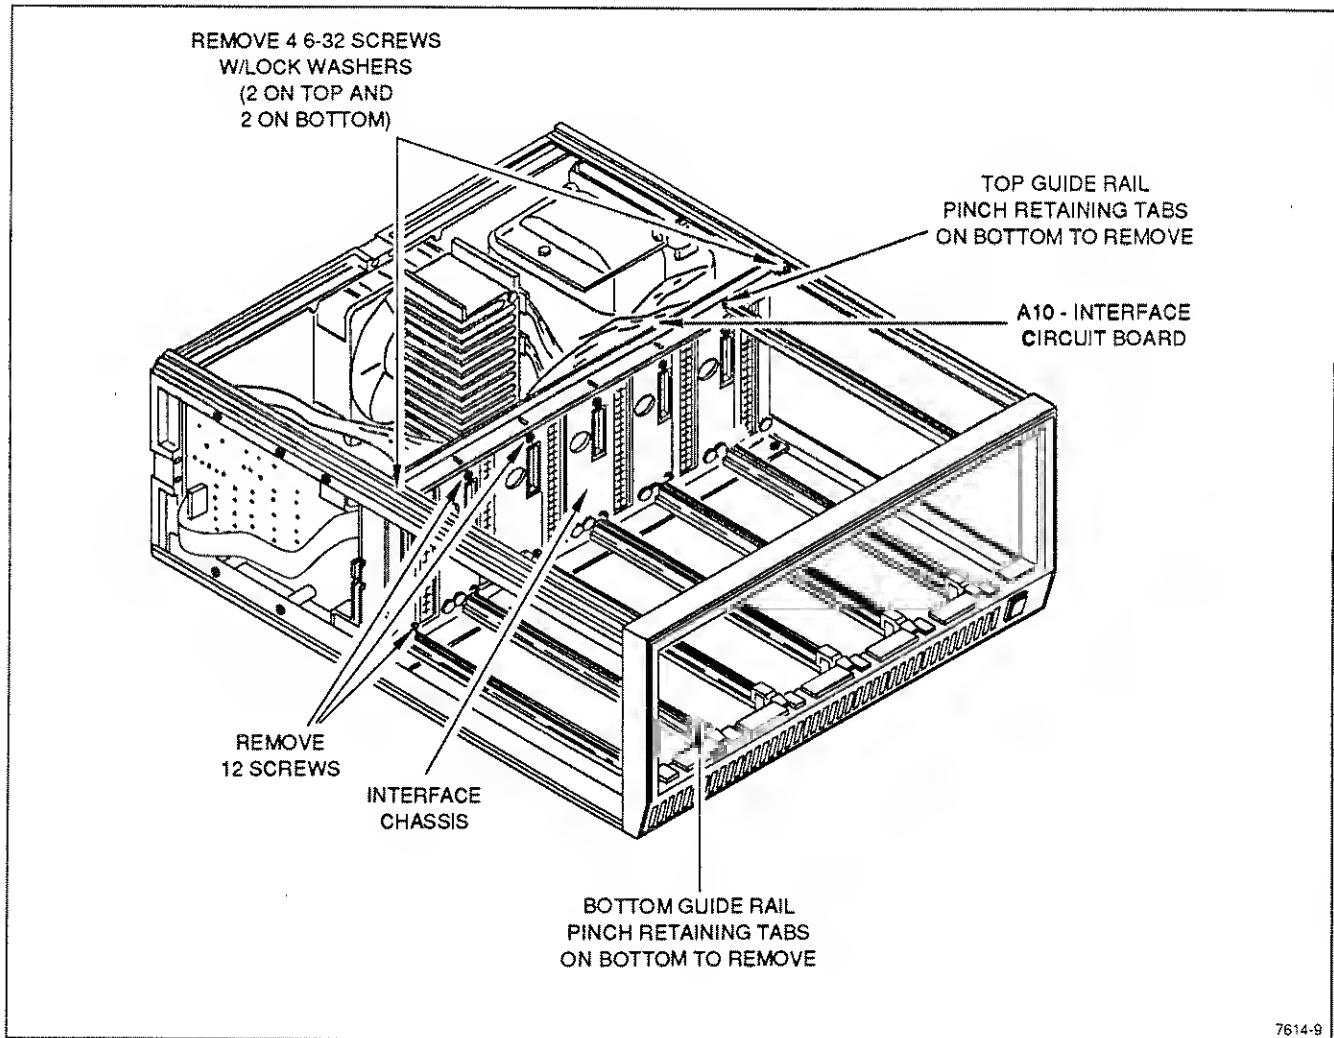

Fig. 5-2. Guide rail removal.
a. Remove the top and bottom guide rails as shown in Figure 5-2.
b. Remove the 12 screws that secure the Interface circuit board to the Interface chassis as shown in Figure 5-2.
c. Remove the 4 screws (with lockwashers) that secure the Interface chassis to the frame rails as shown in Figure 5-2.